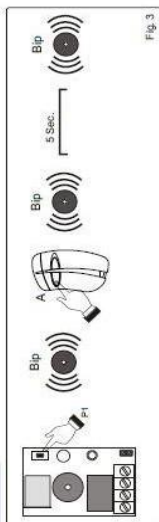

Fig. 3
- 1) Keep P1 pressed down until the buzzer BUZ emits a short bip (Fig. 3);